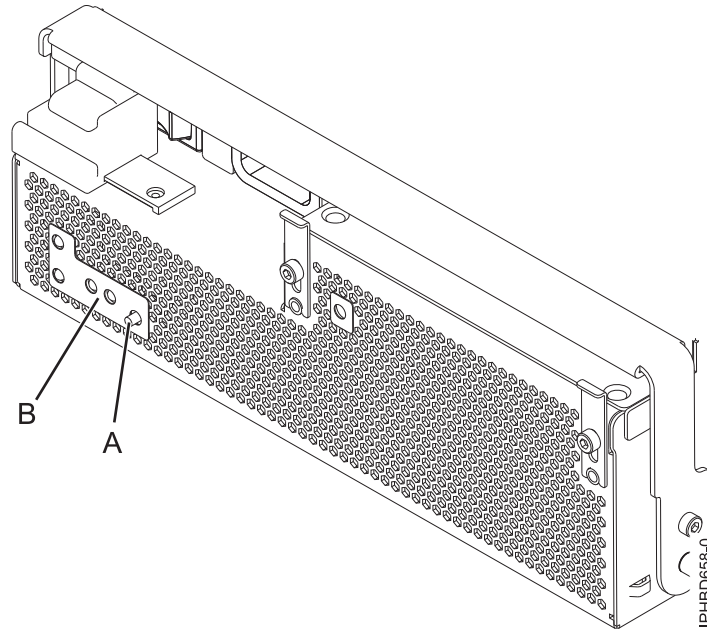

Figure 26. Fan fault LED
Note: If you replaced a power supply fan as part of this procedure, note the state of the fan fault LED (B) shown in Figure 26 on page 25. If the LED is off, indicating that both fans are operating normally, continue to the next step. If not, remove the power supply assembly from the expansion unit and repeat the procedure starting with step 5 on page 21. If, after repeating the procedure, the power supply fan is not operating normally, contact your service provider.